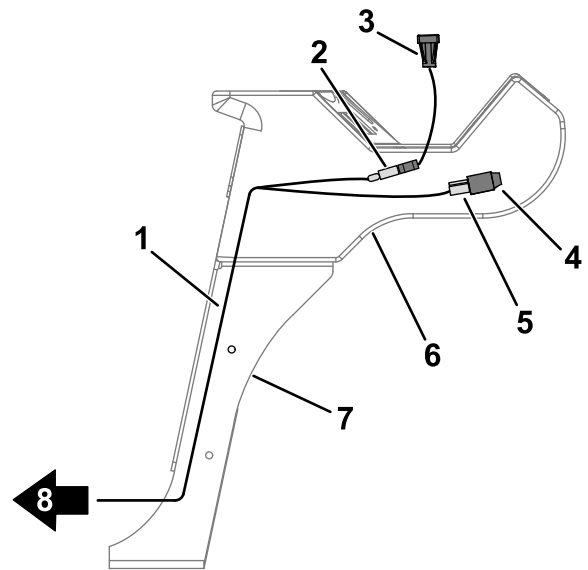

Figure 8
6. Connect the LED light to the wire-harness connector labeled P08 (Figure 8).
5. Install the wire harness as shown in Figure 8.
7. Connect the alarm to the wire-harness connector labeled P09 (Figure 8).
8. Route the remaining end of the wire harness down the control arm (Figure 8).